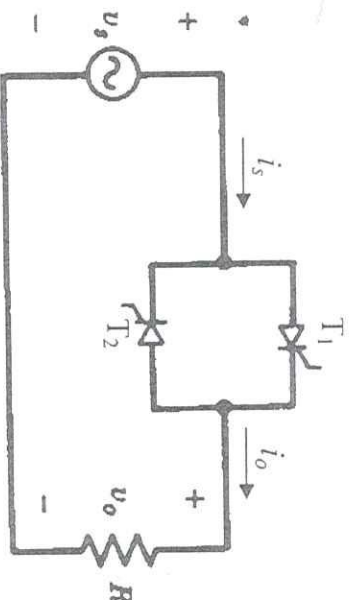

Figure Q5: ac voltage controller.
- b) A single-phase, integral half-cycle controlled, ac voltage controller is shown in Figure Q5. The input voltage $v_s = \sqrt{2}V_s \sin \omega t$ and it has a resistive load $R (>1 \Omega)$. The input voltage is connected to the load for n cycles and disconnected for m cycles. Assume that the thyristors T_1 and T_2 are ideal.
- iii) The ac voltage controller shown in Figure Q5 has a resistive load $R = 10 \Omega$ and the rms input voltage $V_s = 120 \text{ V}$. The input voltage is connected to the load for 4 cycles and is disconnected for 2 cycles. Determine the input power factor of the ac voltage controller.